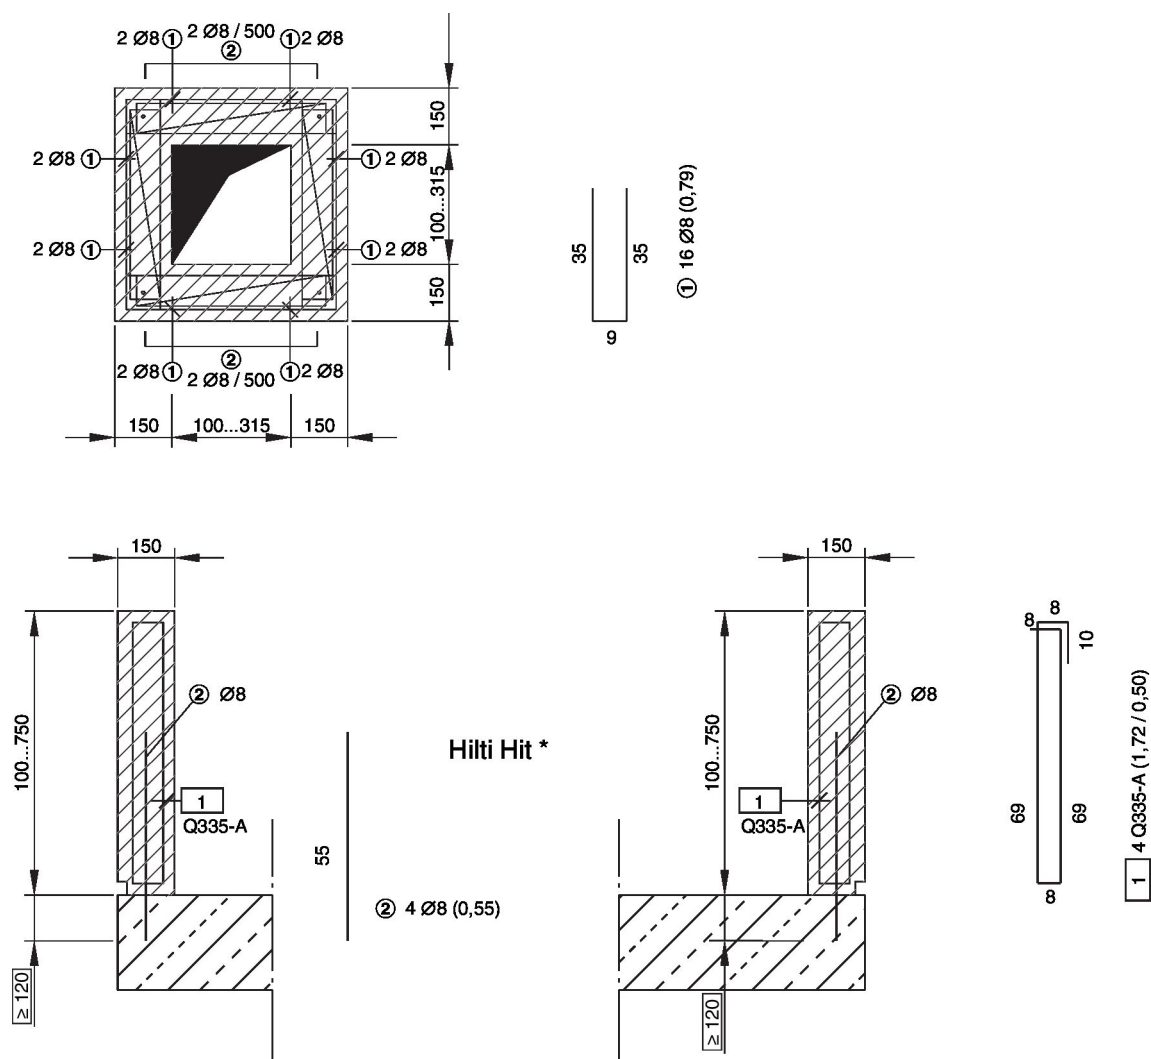

Fig. 23: Reinforcement plan for concrete bases with a height of 100 to 750 mm
| 4 | Concrete base according to the reinforcement plan, see Fig. 23 | B | Operating side |
2. ▶ Create concrete base, for a reinforcement plan see Fig. 23 (or similar, e.g. with steel fabric).